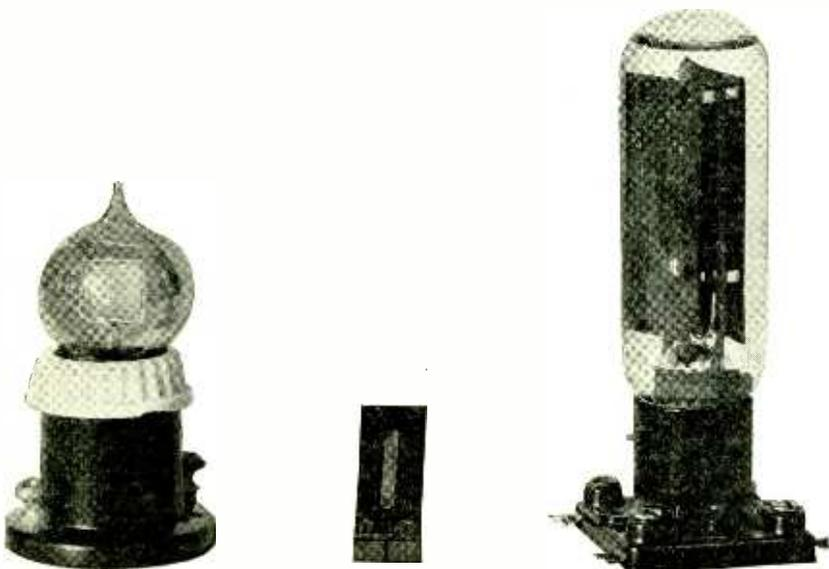

Fig. 1. Types of Light Sensitive Devices; on left, Potassium-Hydride Cell; in center, Selenium Cell; on right, Copper-Oxide Cell
The types of light-sensitive devices which are or have been used for this purpose may be classified as (1) photoconductive, (2) photo-voltaic and (3) photo-electric cells. Grouped in this manner, each class represents different, although related, aspects of light-sensitive phenomena. The selenium, copper oxide, and alkali metal cells are, respectively, typical of each class, (See Fig. 1).